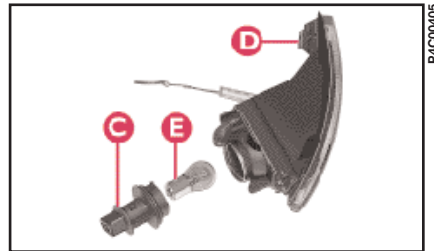

fig. 14
4) Remove bulb **E** (fig. 14), by pushing it gently and turning it in an anticlockwise direction.